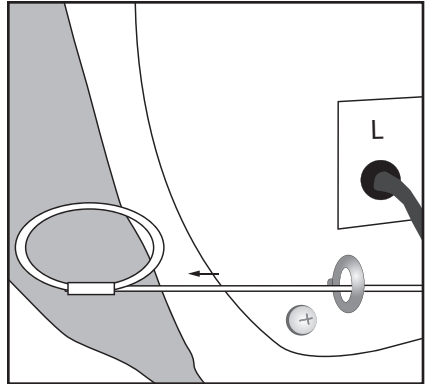

Figure 7b. Feed cable through eyelet.
2. Feed the looped end of the security cable (the end without spike attached) through the factory-installed eyelet on the speaker's bottom (figure 7b).